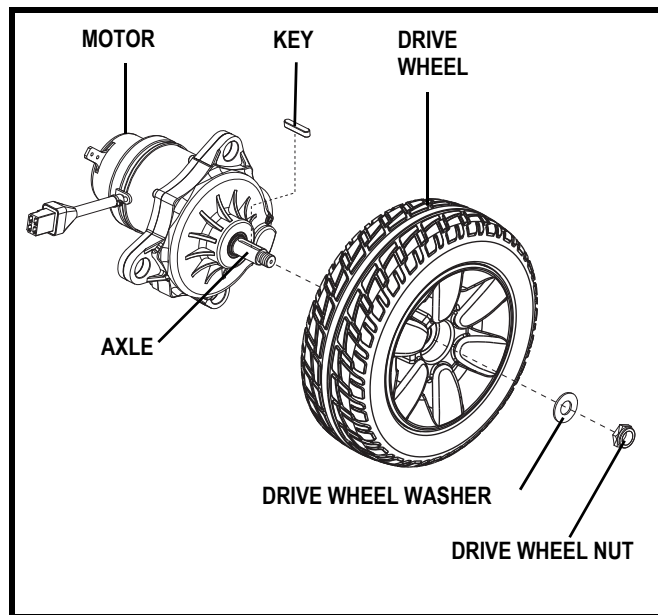

Figure 16. Jazzy Sport 2 Drive Wheel Removal
4. Remove the drive wheel nut and washer from the axle. See **figure 16**.
8. Reinstall the drive wheel nut and washer onto the axle and tighten. See **figure 16**.